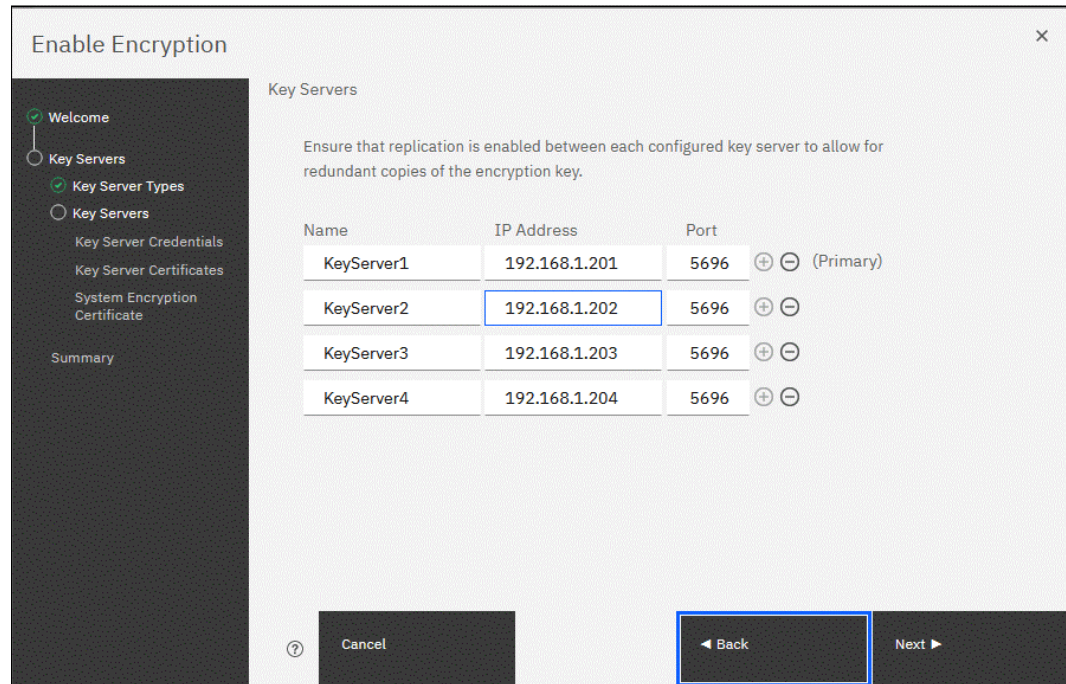

Figure 12-40 Configuring multiple SafeNet KeySecure servers
4. Add up to four SafeNet KeySecure servers in the next wizard window, as shown in Figure 12-40. For each key server, enter the name, IP address, and TCP port for the KMIP protocol (the default value is 5696). The server name is only a label, so it does not need to be the real hostname of the server.